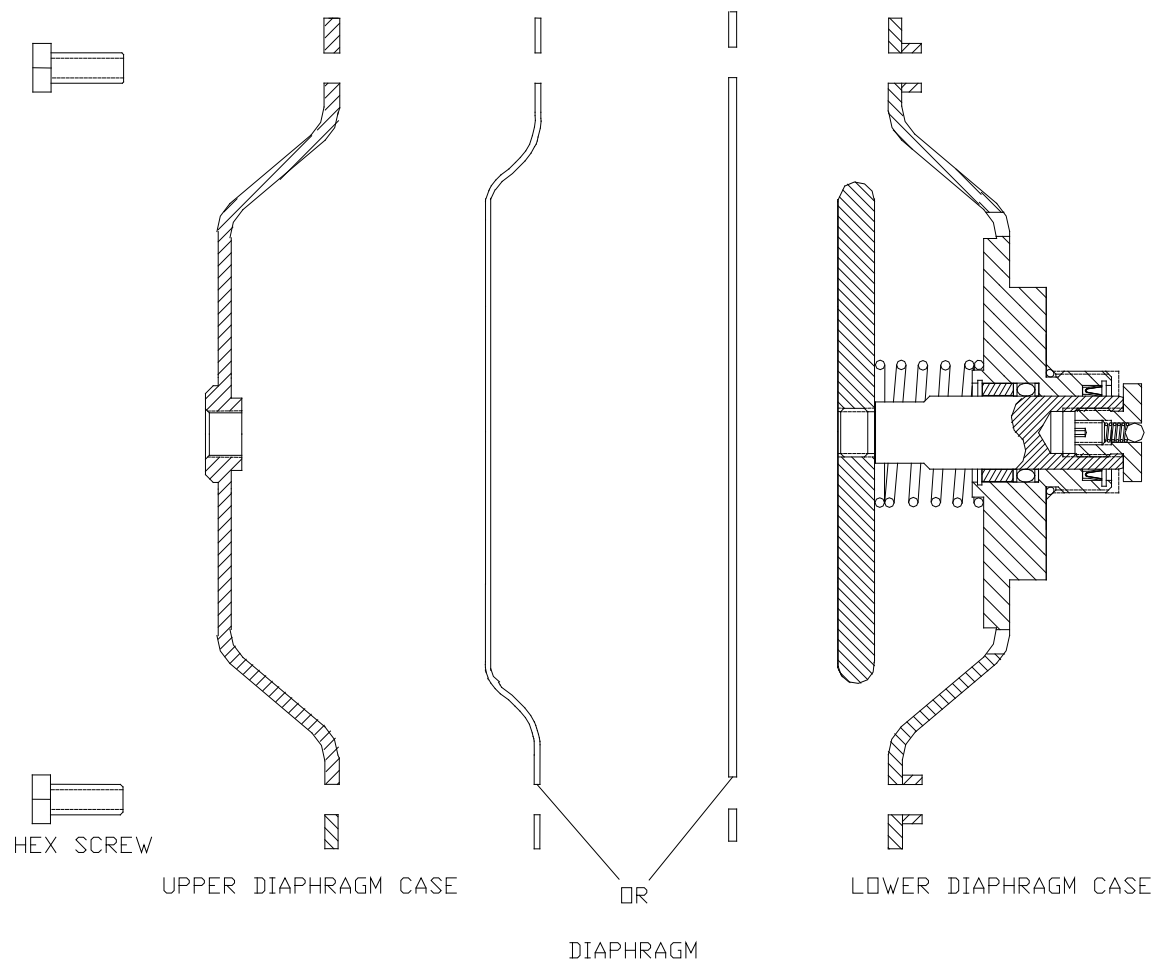

FIGURE 7
3.2.8 To replace the remaining seals, remove the hex head nuts #36 (18 each) and bolts #4 (18 each) that hold the diaphragm case together. Separate the two halves and examine the diaphragm #2. Replace, if necessary (see Figure 7).
3.2.9 To unscrew the shield/shaft adapter, hold on to the diaphragm plate. With a wrench, unscrew the adapter from the shaft (see Figures 7 and 8).